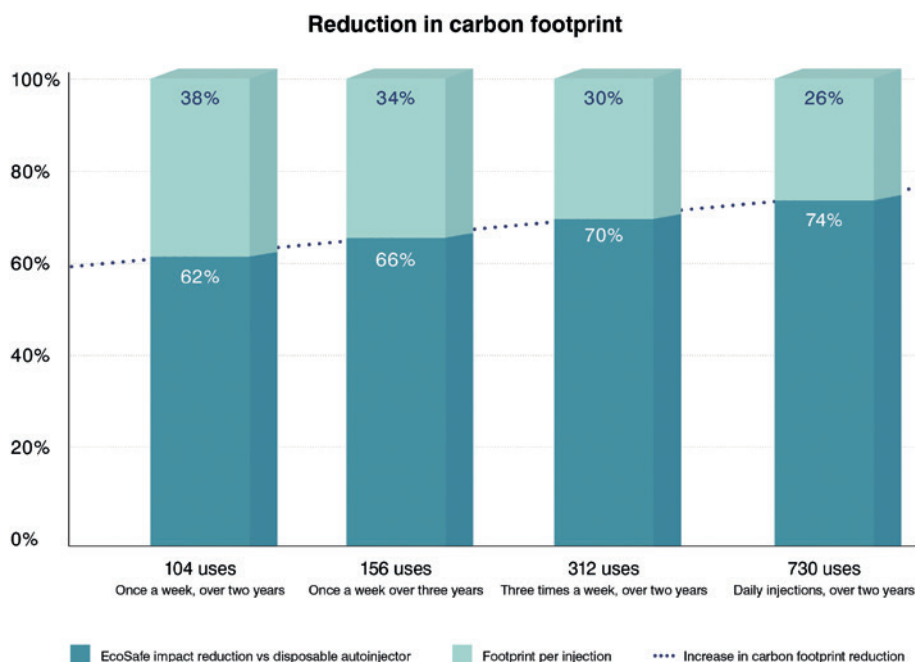

Figure 1: Carbon footprint reduction per injection – reusable EcoSafe autoinjector versus a disposable autoinjector.
3. **Successful Self-Administration at Home Has a Hugely Positive Impact on Waste and Carbon Footprint:** If self-administration fails – because the patient is insufficiently dexterous to handle a standard drug delivery device (e.g. a safety syringe), or they are needle-phobic or have cognitive (mental) issues – then they either have to be visited by a district nurse or they need to go (or be taken) into hospital. The carbon footprint of this unnecessary activity – for instance, road transport – is so great that it makes CO₂ emission comparisons between drug delivery devices pale into relative insignificance (Figure 1).